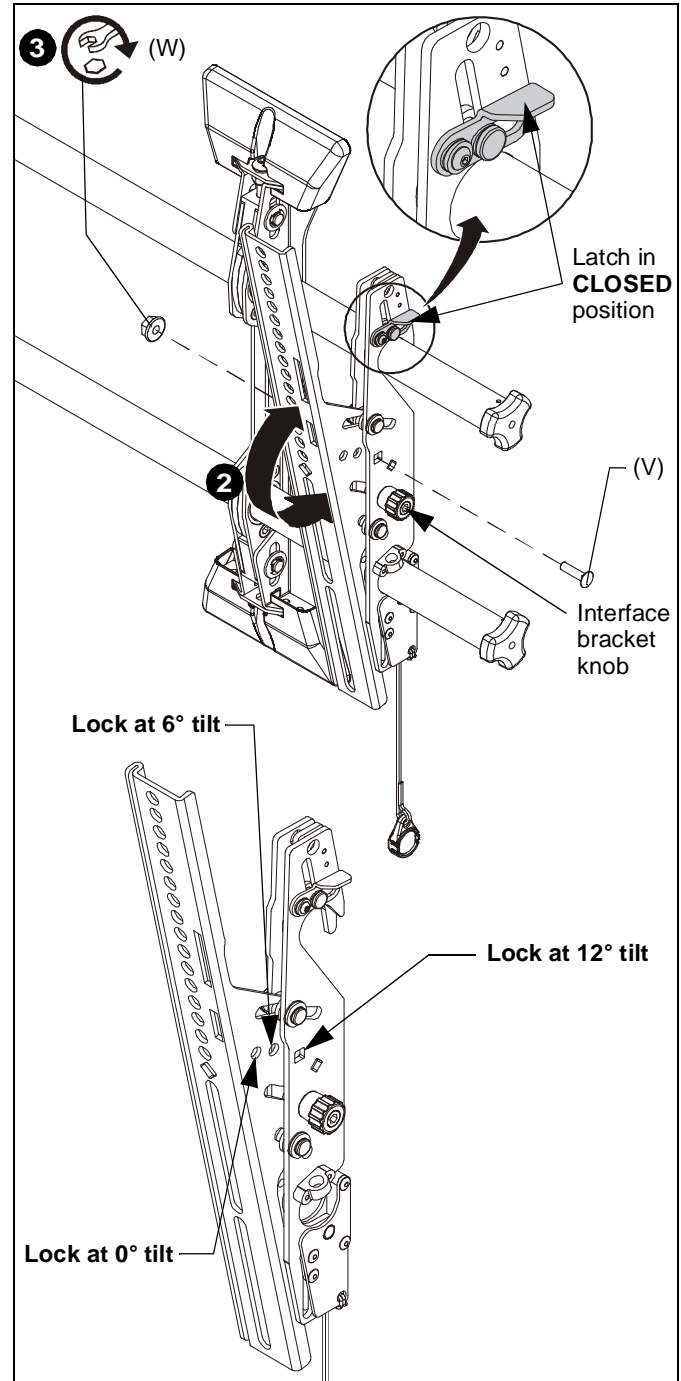

Figure 14
3. (MTM1U / LTM1U only) Move latch on top of interface brackets to CLOSED position. (See Figure 14)
2. Adjust tilt as required. (See Figure 14)
3. The tilt may be locked at 0°, 6° or 12° using one 1/4-20 x 1" round head carriage bolt (V) and one 1/4-20 hex nut (W) per interface bracket. (See Figure 14)